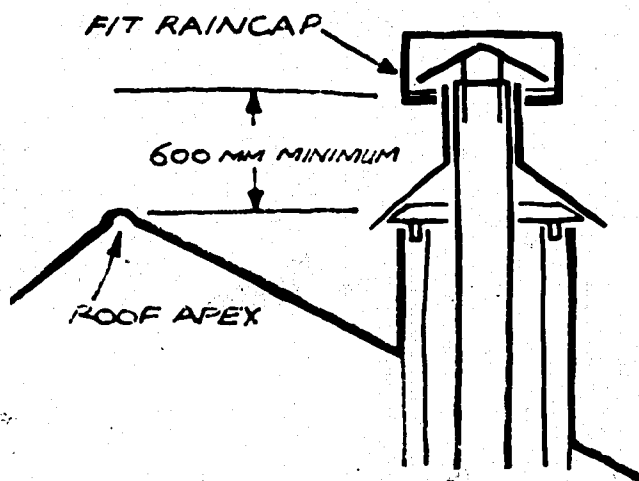

FIGURE 21
2.1.10 The Flashing Cone can now be placed over the top of the flue to rest on the Spider. If the top of the flue and Flashing Cone are level, and at least 600 mm above the roof ridge, the Raincap may be slipped into place inside the flue to complete the installation, Figure 21. The Raincap should not be fastened to the top flue section, although it should be a firm sliding fit. If it is loose, distort the flue slightly to obtain the required fit.
2.2.2 The Flashing Cone and Spider may now be installed on top of the Heat Shield as in 2.1.9. If the flue protrudes above the Flashing Cone, up to 300 mm of the flue may be trimmed off to bring the top of the flue and Flashing Cone level. When more than 300 mm of the flue protrudes above the Flashing Cone, a Weather Sleeve must be added, Figure 21, with swaged end uppermost. The bottom end of this sleeve should be trimmed so that the top is level with the top of the flue.